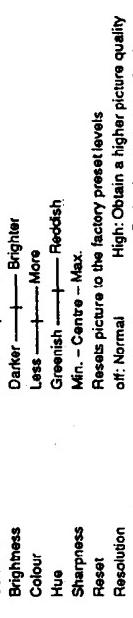

Fig. 32.
- Adjust the setting with o + or s - and press OK. The cursor appears beside the next item (at the left margin). (See Fig. 32.) For the effect of each control, see the table below.